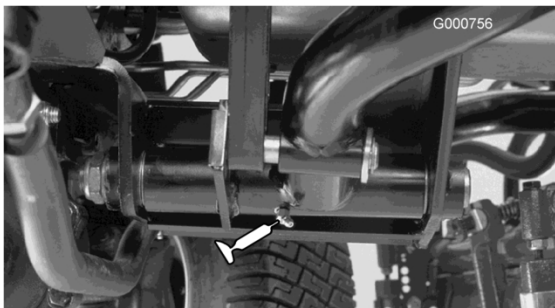

Figure 36
- Rear lift arm pivots (2) (Figure 36)